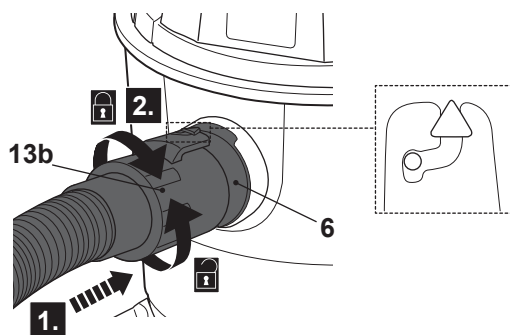

Fig. 10
- > Align the arrow on the hose connector (13b) with the tab on the outer opening of the air inlet (6) and slide the hose connector into the outer opening of the air inlet (Fig. 10, step 1).
- > Rotate the hose connector (13b) clockwise and ensure the connection is properly secured (Fig. 10, step 2).